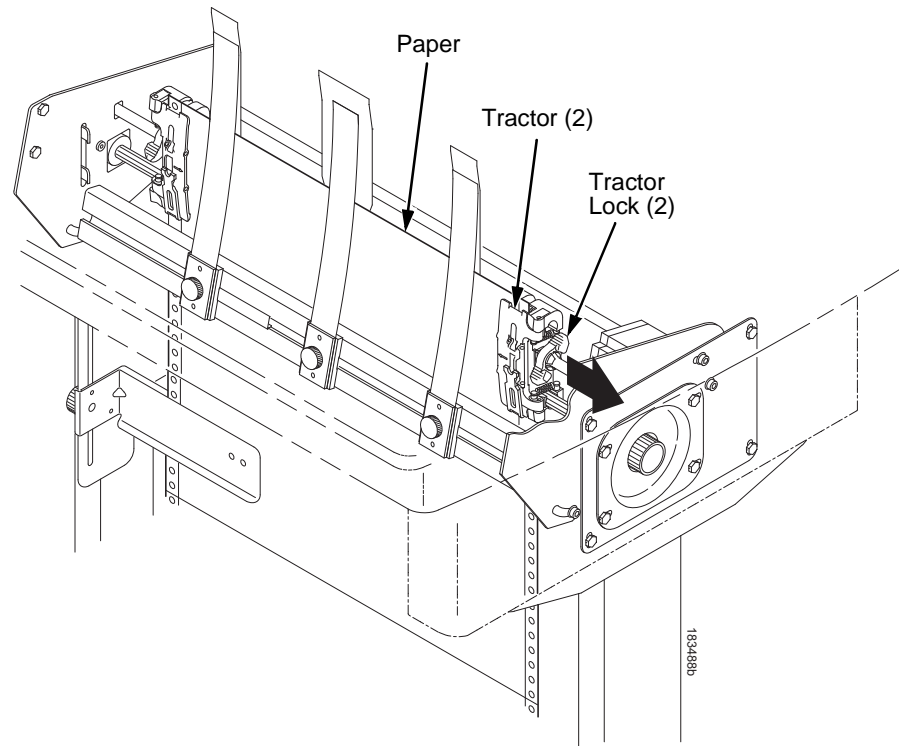

Figure 31. Adjusting the Horizontal Paper Tension
5. Adjust the paper web tightness by sliding the right tractor to remove slack or to adjust for various paper widths. (See Figure 31.)